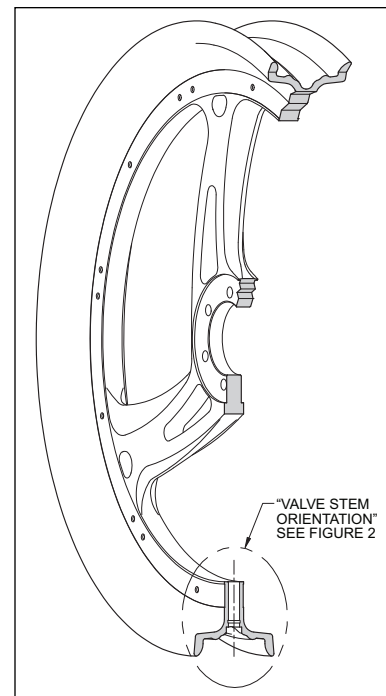

Figure 3. Fully Machined Wheel
• A typical fully machined wheel is shown for reference in figure 3.